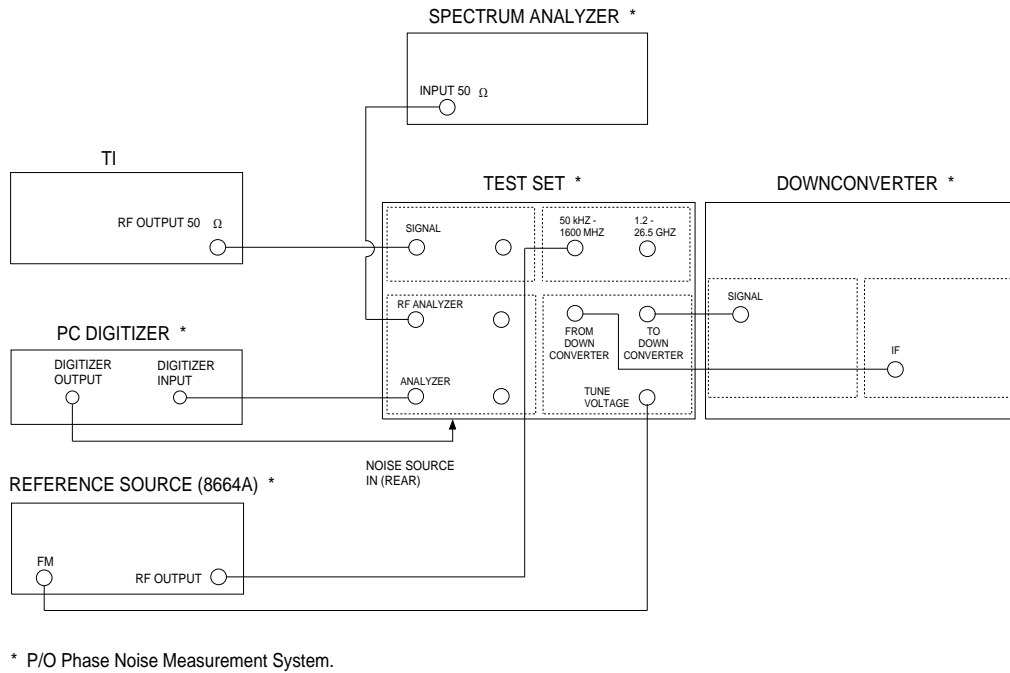

Figure 3.
4.4.14 Connect equipment as shown in Figure 3. Press the TI **CARR ON/OFF** key to set output level to ON.